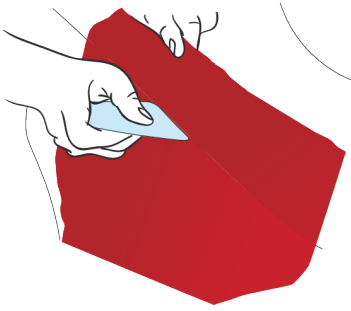

Figure 28
- › Trace the contours of the area with your finger. Lift the vinyl of the adjacent part and drag it into the hollow using a squeegee so as to mark the seal edge. (FIG. 28)